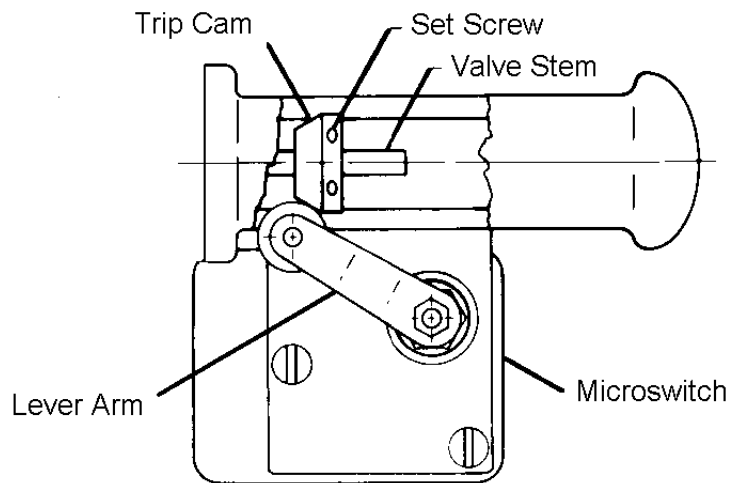

Figure 4-1. Valve Position Indicator Microswitch Trip Cam
3. Position the cam precisely as illustrated in Figure 4-1. Make sure the microswitch swing arm roller is on the beveled surface of the cam.